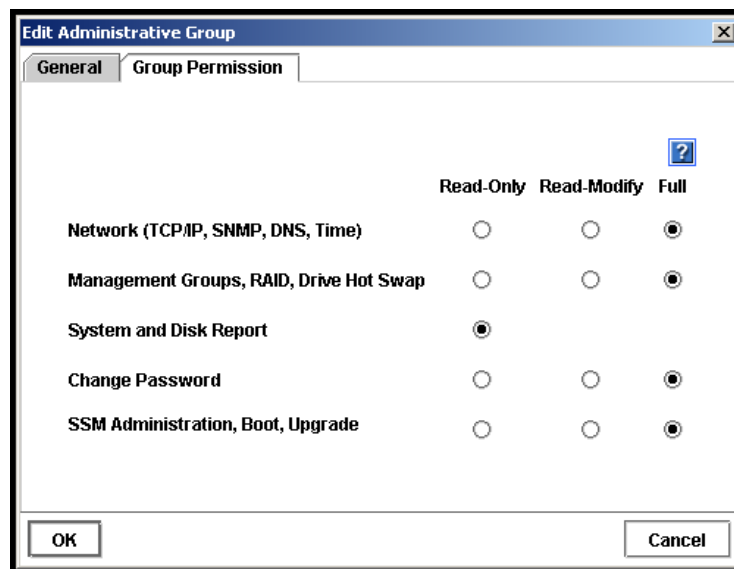

Figure 99. Adding Permissions to Administrative Groups
1. From the Create Administrative Group window, click the Group Permission tab to bring it to the front, shown in Figure 99.